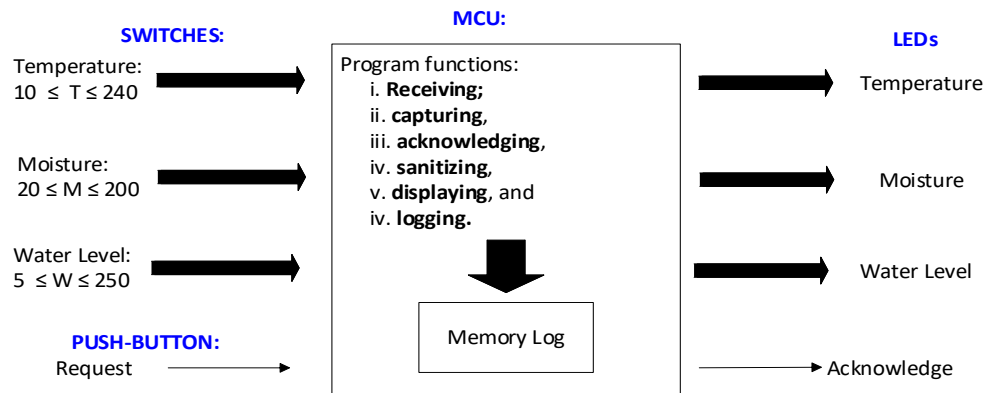

Figure 1.1. Main functions and interfaces of the data logging system
You will design a system that receives three important parameter (temperature, moisture, water level) values using digital parallel interfaces modeled by switches (and one push-button) on the input side, and displays them using LEDs on the output side. The receiving protocol uses a 1-bit Request control (push-button) input to signal when there is a new set of data to be processed. Each request is acknowledged through a 1-bit (LED) output. The received data is also sanitized for validity, and appropriately logged to data memory space. The system is illustrated in Figure 1.1.
- **Sanitizing:** Each received digital parameter value will be checked against its expected range, as also documented in Figure 1.1. If the value is within the expected range for that parameter, it is preserved. If it is outside the expected range, the value is replaced by 0xFF (all 1’s).